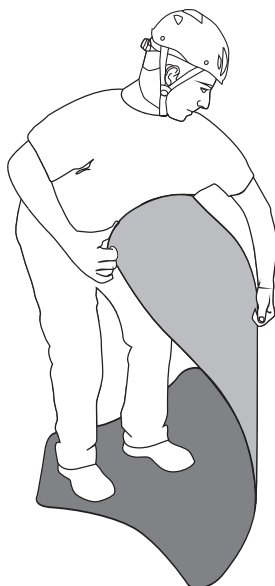

Fig.7
- a) Remove **“HALF ROLLY”** rescue sheet from the transport bag (O) and remove the ratchet sling (N),
- b) Distend the support surface (A) and flatten it, rolling the ends over in the opposite direction and folding the central section (fig. 7)